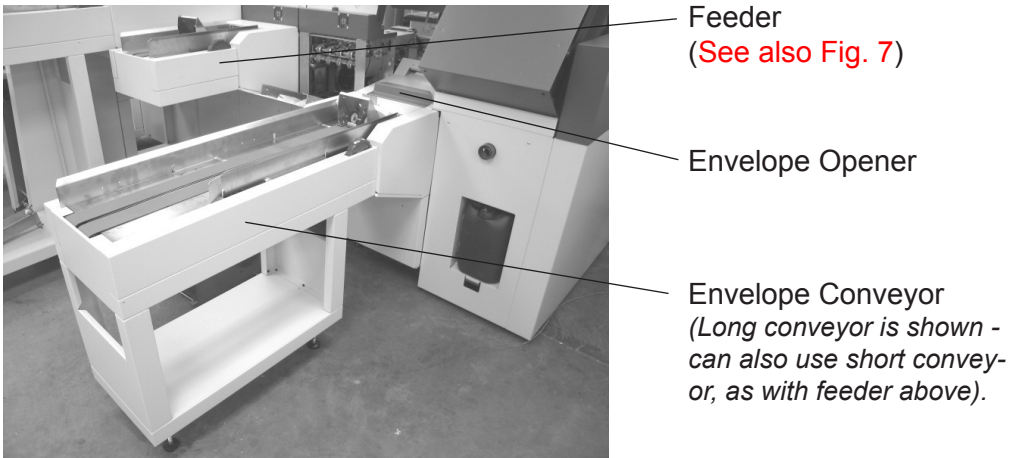

Fig. 5
- Fig. 5. Envelope Opener
- Fig. 5 & 7. Feeder
**see also Fig. 5**